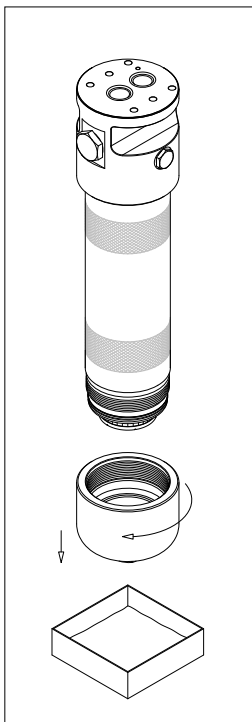

fig. 26
- (Fig. 26) Unscrew the bowl cover after placing a vessel to collect the operating fluid